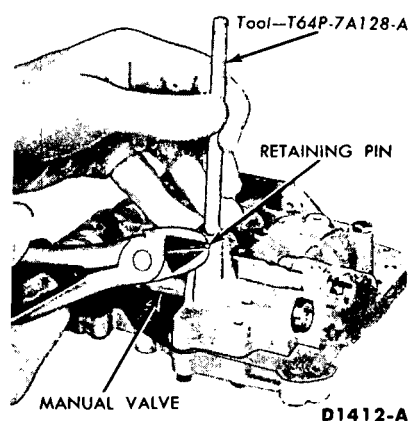

FIG. 71—Removing Manual Valve
3. Depress the manual valve detent spring with the tool shown in Fig. 71. Remove the spring retaining pin (roll pin) from the upper valve body. Remove the spring and detent plunger.